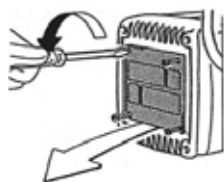

fig.115
2. Completely unscrew the four screws of the nameplate on the motor side and remove it. (fig.115)